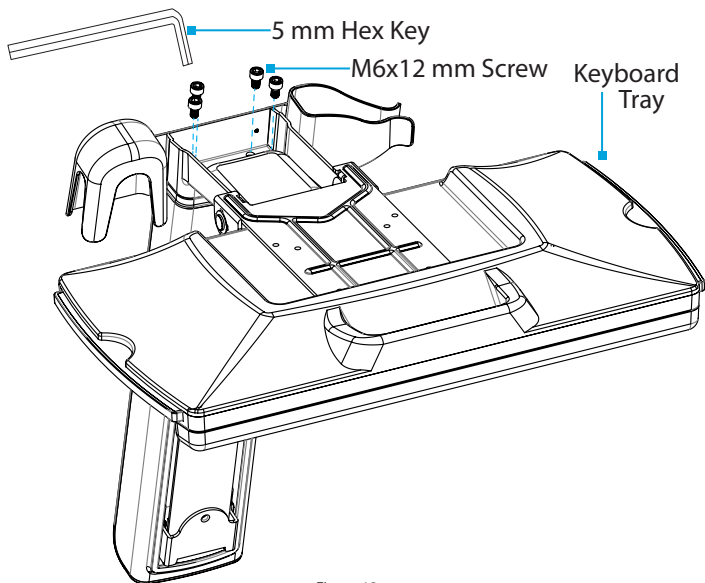

Figure 13
3. Insert the **M6 x 12 mm Screws** through the **Assembly Holes**, located in the **Keyboard Tray**, and into the **Column** and tighten, using the **5 mm Hex Key**. (Figure 13)